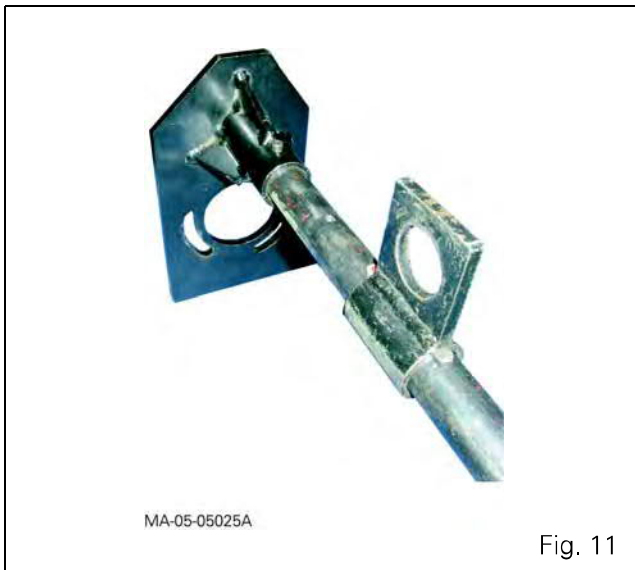

Fig. 11
- **3376883M1**: Sling for input unit (Fig. 11)